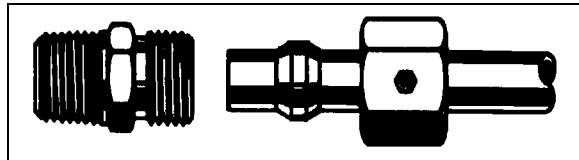

FIGURE 50: HOSE FITTING
**Compression:** Tighten nut by hand (Fig. 50). From that point, tighten using a wrench the number of turns indicated in the chart hereafter.